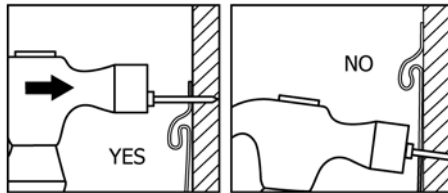

FIG. 8 Face Nailing of Vinyl Siding Prohibited
9.1.3 Do not face nail siding panels. (See Fig. 8.)